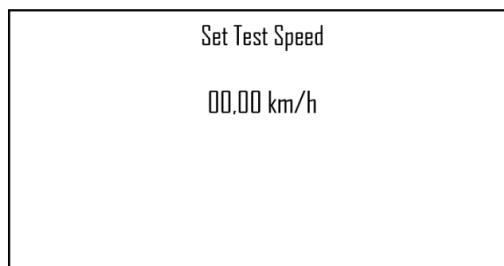

Fig. 12 – “Set test speed” screen
- 5) By using the arrows ↑ and ↓ pick “Decelerometer” and confirm the choice by pressing the “ENTER” button. Then the “Set braking start” screen appears (Fig. 12).